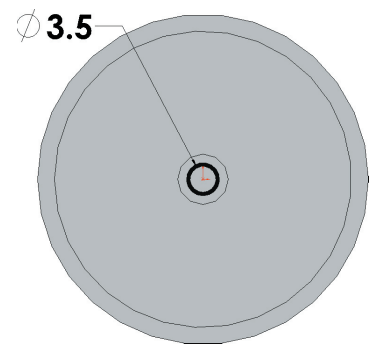

Fig. 8
Step 4. Draw a circle for the hole starting at the Origin , **Fig. 8**.
Step 5. Click **Fully Defined Sketch**  (D) on the Sketch toolbar and OK  in the Property Manager.
Step 6. Dimension the axle hole **3.5** as shown in **Fig. 8**.